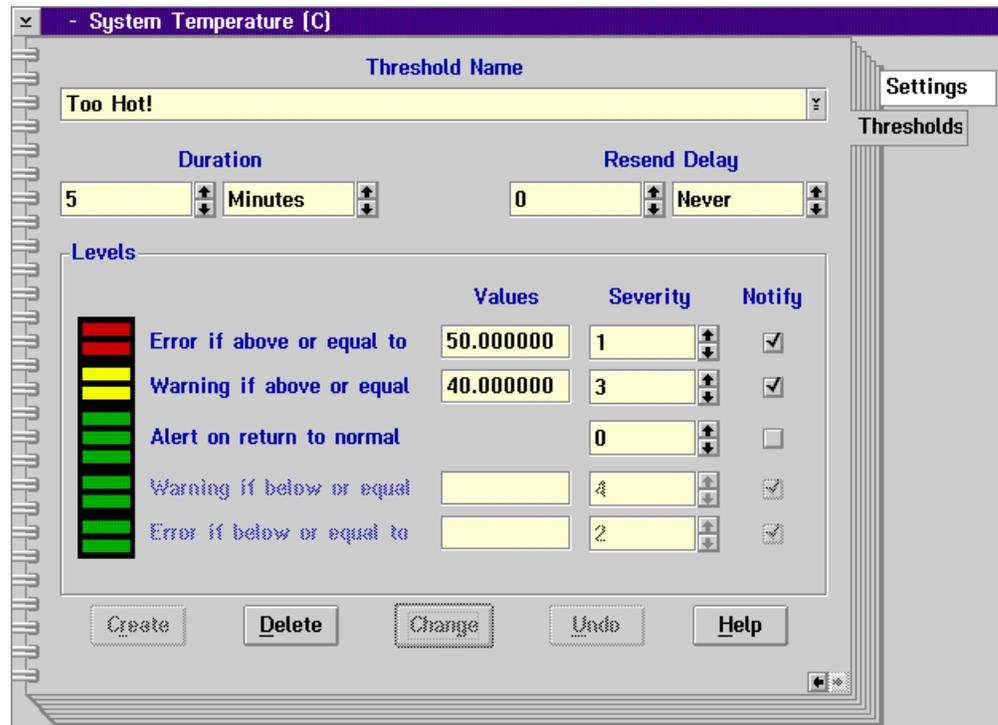

Figure 97. System Temperature Threshold Settings
- Open the threshold settings window by either double-clicking on the monitor or right-clicking on the monitor and selecting **Open** → **Threshold**. Figure 97 on page 135 appears.
You now need to configure the threshold, as shown in Figure 97.
If you want an alert to be sent locally on the threshold you have to select the **Notify** check box. We do want this to be sent so leave this as shown in Figure 97 on page 135 For an example of how to use this see 6.7, "Example 7: Application Failure and Restart" on page 173.